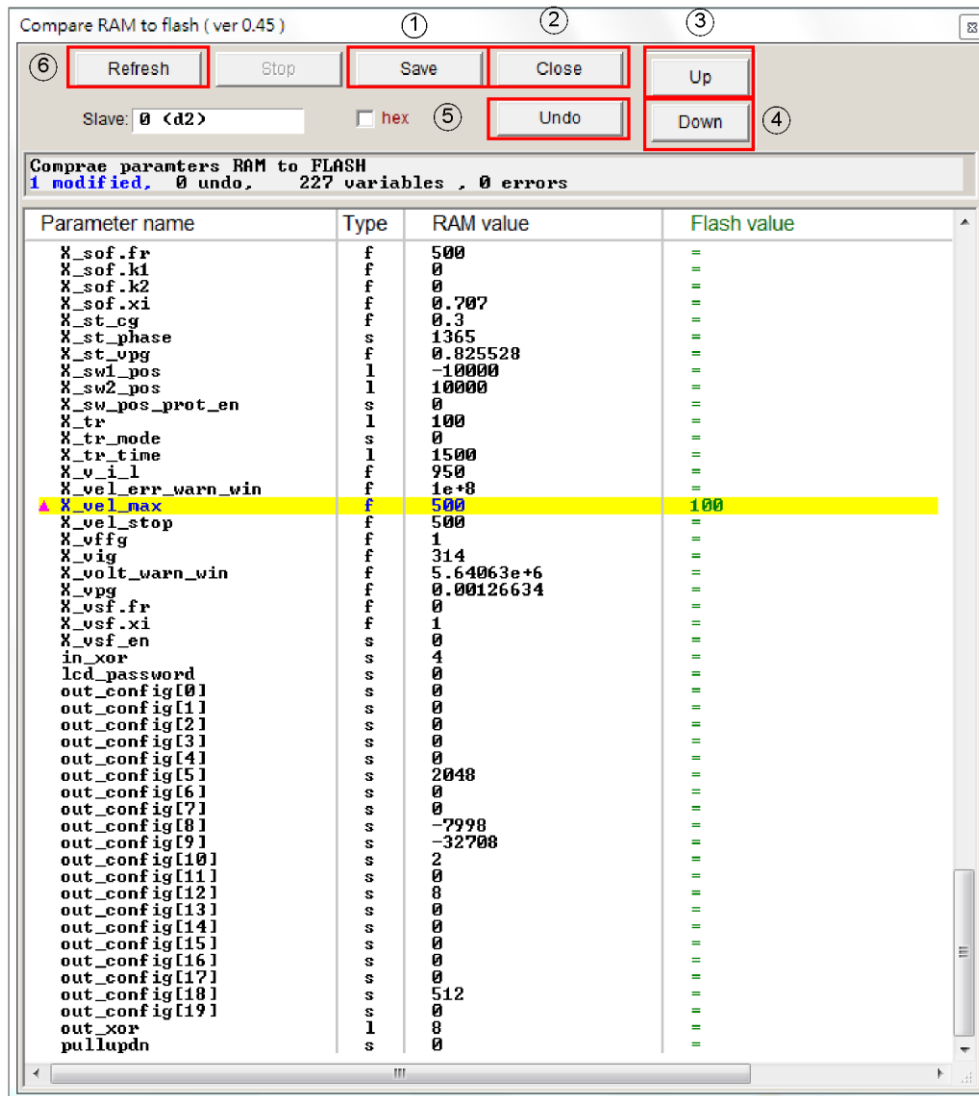
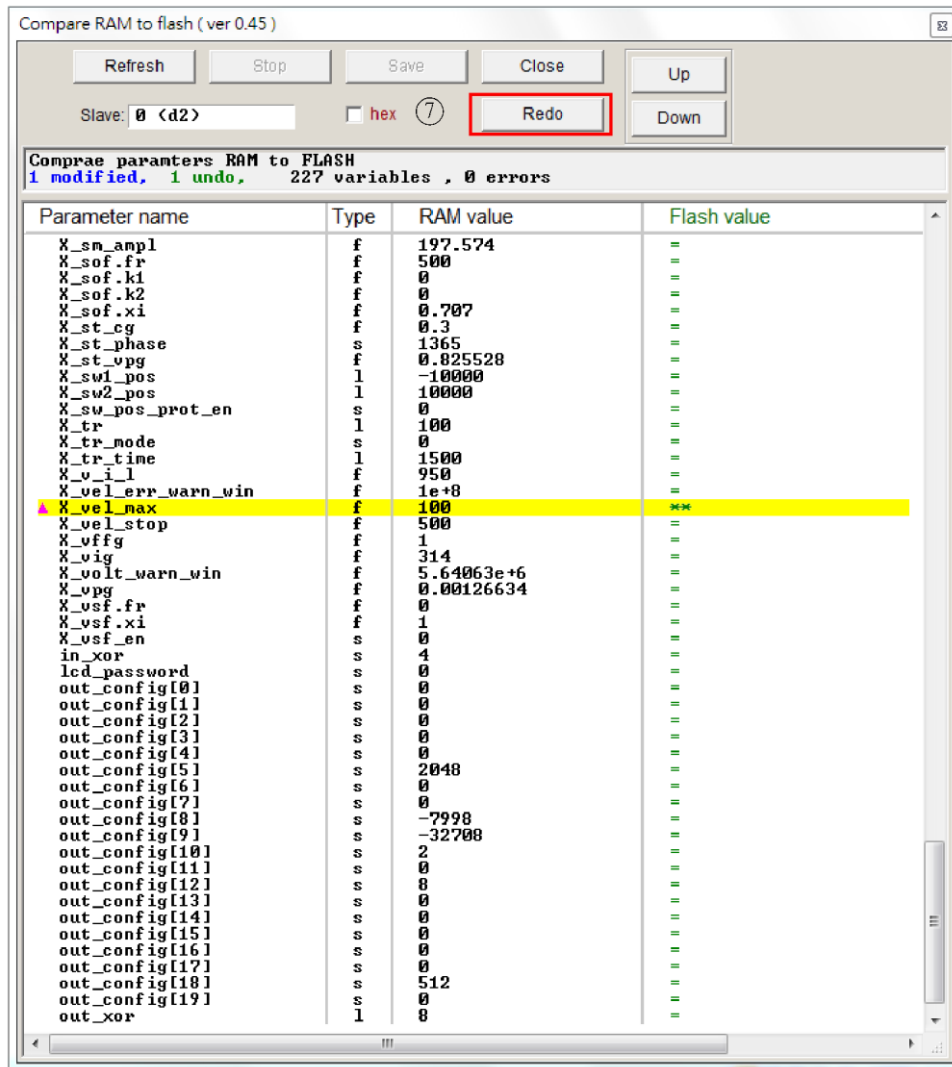

Fig. B-2
Fig. B-3
An advanced comparison window will be opened when users clicks the "Details" button. Users can see the different parameter settings (Fig. B-2 and Fig. B-3) between the RAM and the Flash in this window. The different parameter is indicated with blue color.
- "**": The parameter has performed Undo and the value in the RAM has been change to a parameter value in the flash memory (Fig. B-3).